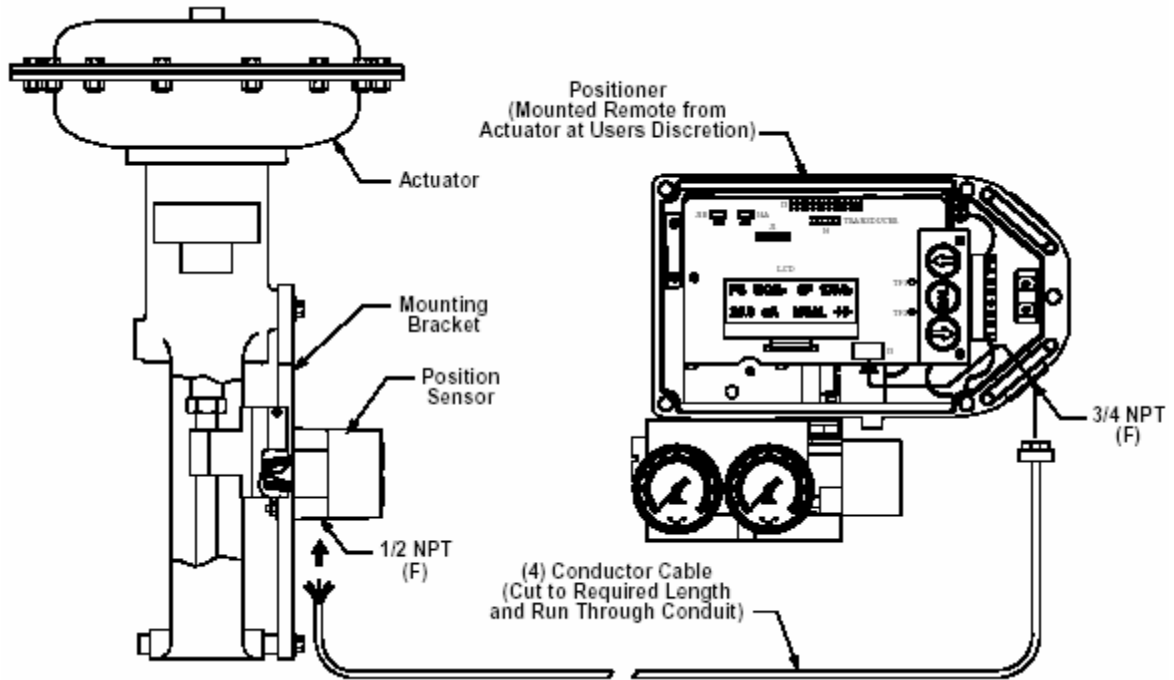

Figure 13
- 8.4.3. Mount positioner at a remote location, wire the positioner sensor back to the positioner using the cable provided (See Figure 13).